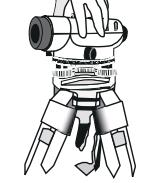

Fig.3
- (3) Set the instrument on the tripod head B, and tighten it.(Fig.3)